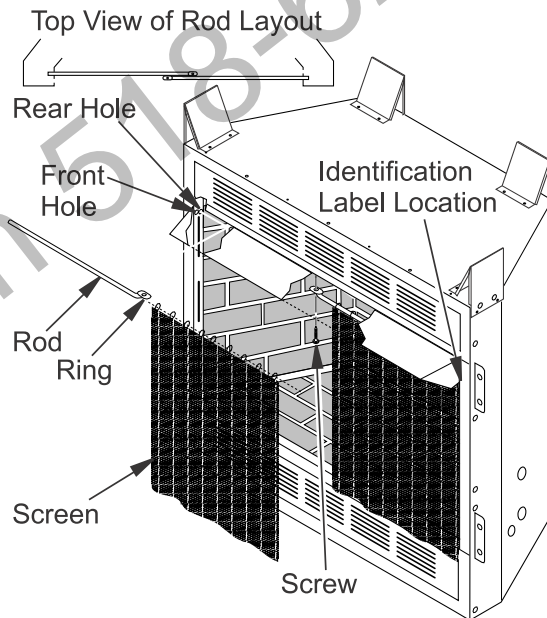

Figure 22 - Installing Fireplace Screen
3. Insert first rod into rear hole in left side of firebox. Fasten rod to rear hole near center of firebox using #10 x 3/8" Phillips screw provided (see Figure 22).